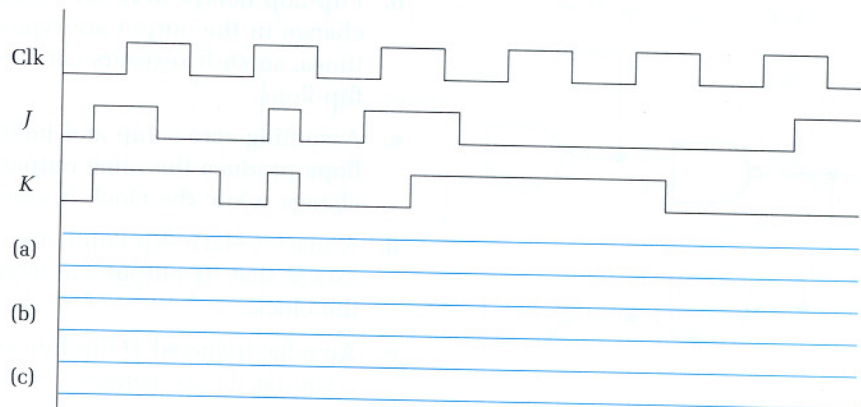

Figure Ex6.10 Timing diagram for Exercise 6.10.
- 6.10 (*Flip-Flops*) Given the input and clock transitions given in Figure Ex6.10, draw a waveform for the output of a *J-K* device, assuming: